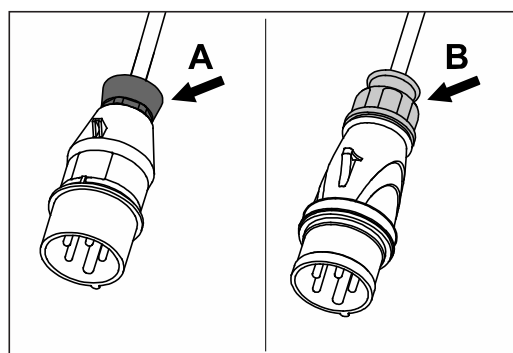

Fig. 22 Original LÄGLER® plug with red nut (A) or yellow nut (B).
- 2 Original LÄGLER® plug with red nut at the cable outlet (fig. 22, A):
Original LÄGLER® plug with yellow nut at the cable outlet (fig. 22, B):